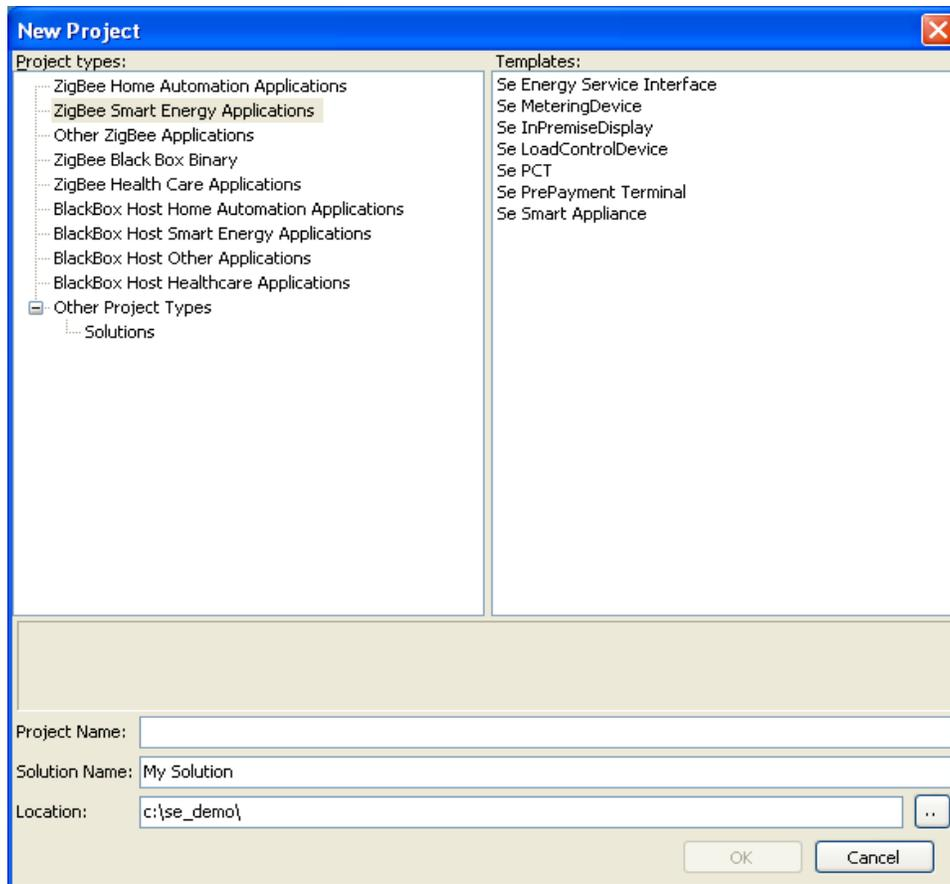

Figure 6-1. New Project Window
3. From the menu, create a new project to configure a new device by selecting File -> New Project... The New Project window appears as shown in Figure 6-1.